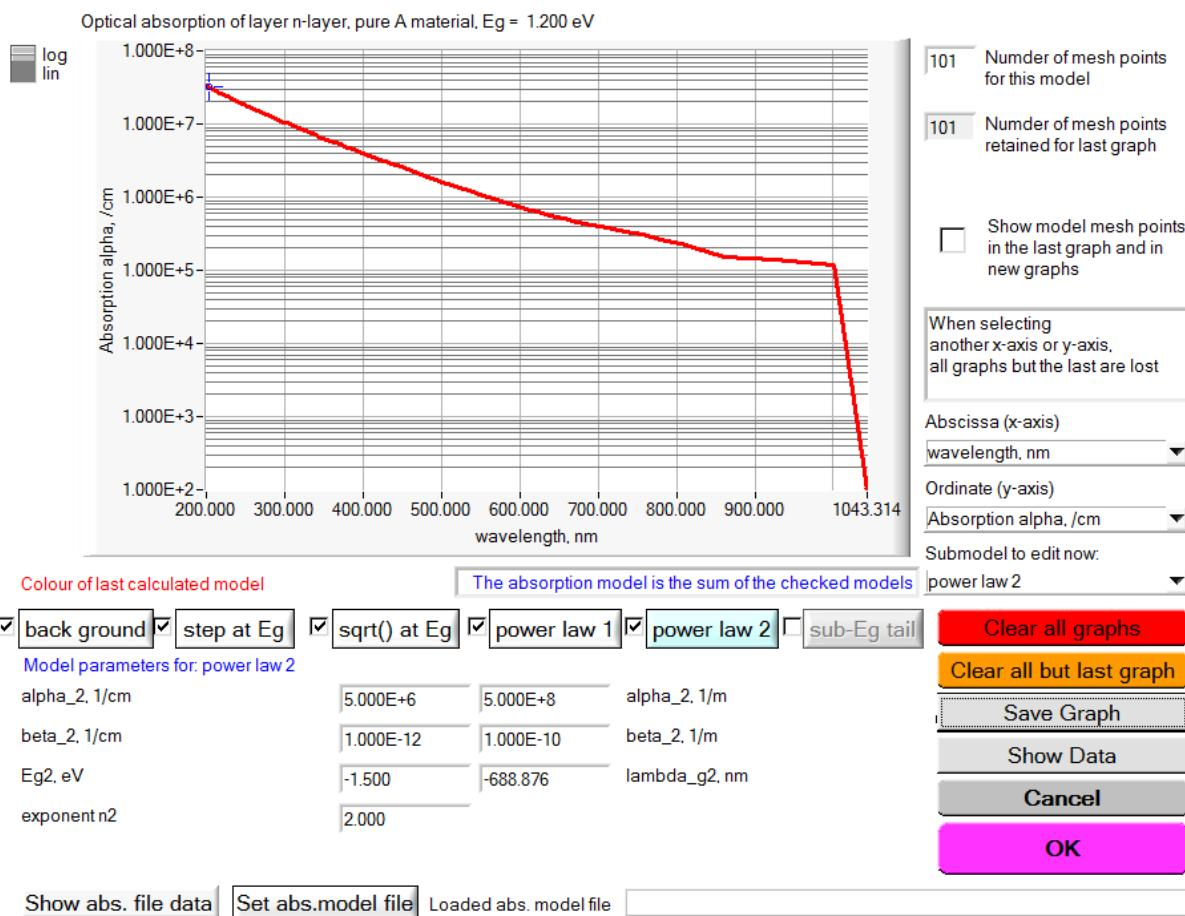

Figure 3.16 The Absorption Model Panel of SCAPS $\geq 3.3.07$.
The optical absorption block in the Layer Properties Panel has been changed in the new SCAPS $\geq 3.3.07$, see Figure 3.15. When the optical absorption of a material/layer is set to ‘from model’, the ‘set absorption model’ button is active; upon clicking, the Absorption Model Panel opens (Figure 3.16). This panel is operating much like the grading panel and the (spectrum or generation) model panel, that are perhaps familiar to the SCAPS user.
- The number of mesh points (λ values or hv values) in the top right part of the panel of Figure 3.16, is only relevant for this panel. In calculations, SCAPS decides the λ -values at which to evaluate $\alpha(\lambda)$, the generation $G(x, \lambda), \dots$ based on the calculation settings ordered by the user: e.g. λ values in the spectrum file, λ values at which $QE(\lambda)$ are ordered,...